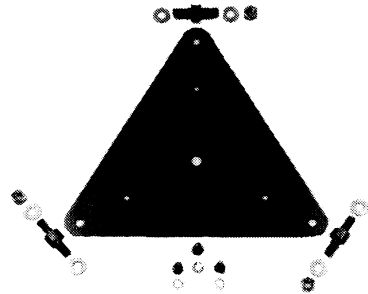

Fig. 25 Example of components of ganging unit;
- A) For **mechanical ganging** order ganging unit (Fig. 25) and spindle; see columns 4 and 5 of the table.
For **motor drive of ganged transformers** order ganging unit (Fig. 25) spindle, base plate assembly (Fig. 26), if required, and motor drive kit (Fig. 27); see columns 4, 5, 6 and 7 of the table.